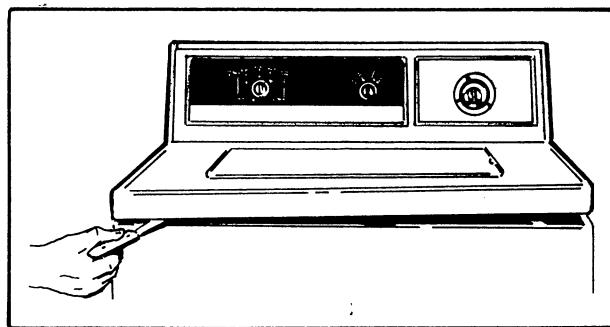
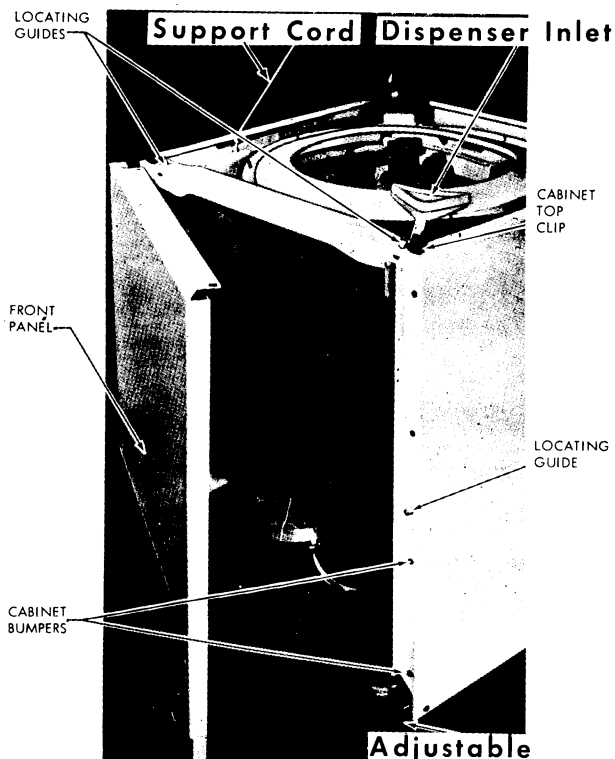

Figure 6A— Releasing Clip
Figure 7 – Cabinet Front
2. Release clip at each side of front panel by passing a thin blade putty knife between top edge of front panel and lower edge of cabinet top. See *Figure 6A*. Push blade against clip to disengage it and raise top upward to clear the clip. The top can be raised to an upright position if space permits. The guide opening in the flange at the left underside of top and the hole in top flange of cabinet allow for use of a chain with hooks or a cord, to support top in a vertical position. See *Figure 7*.
- c. Tape lid shut, raise top panel, *Figure 6A*. See "Top Panel Removal", *Procedures 3 and 4*.
2. Using a putty knife, release the two clips, *Figure 6A*. Raise top over the guides. Place handle of putty knife between the top and the cabinet, directly in back of clip at one side, to support top. Lift and remove front panel from cabinet.